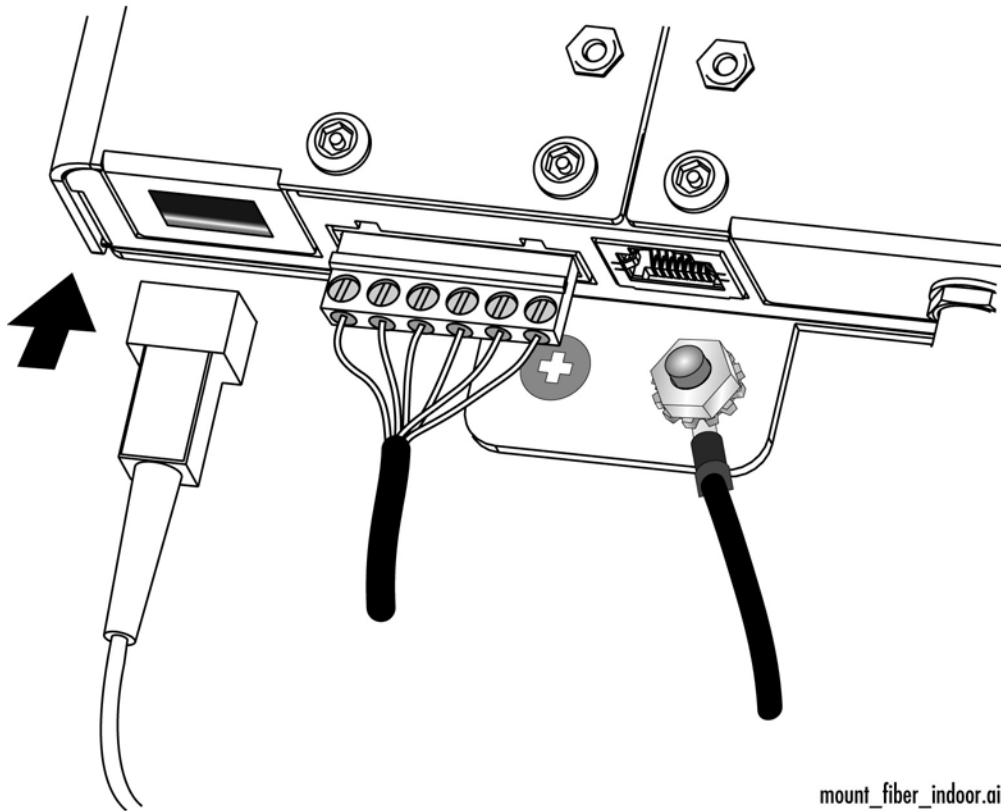

Figure 23. Connecting the Fiber Optic Cable
2. Connect the pigtail cable to the fiber optic port on the gateway, as shown in Figure 23